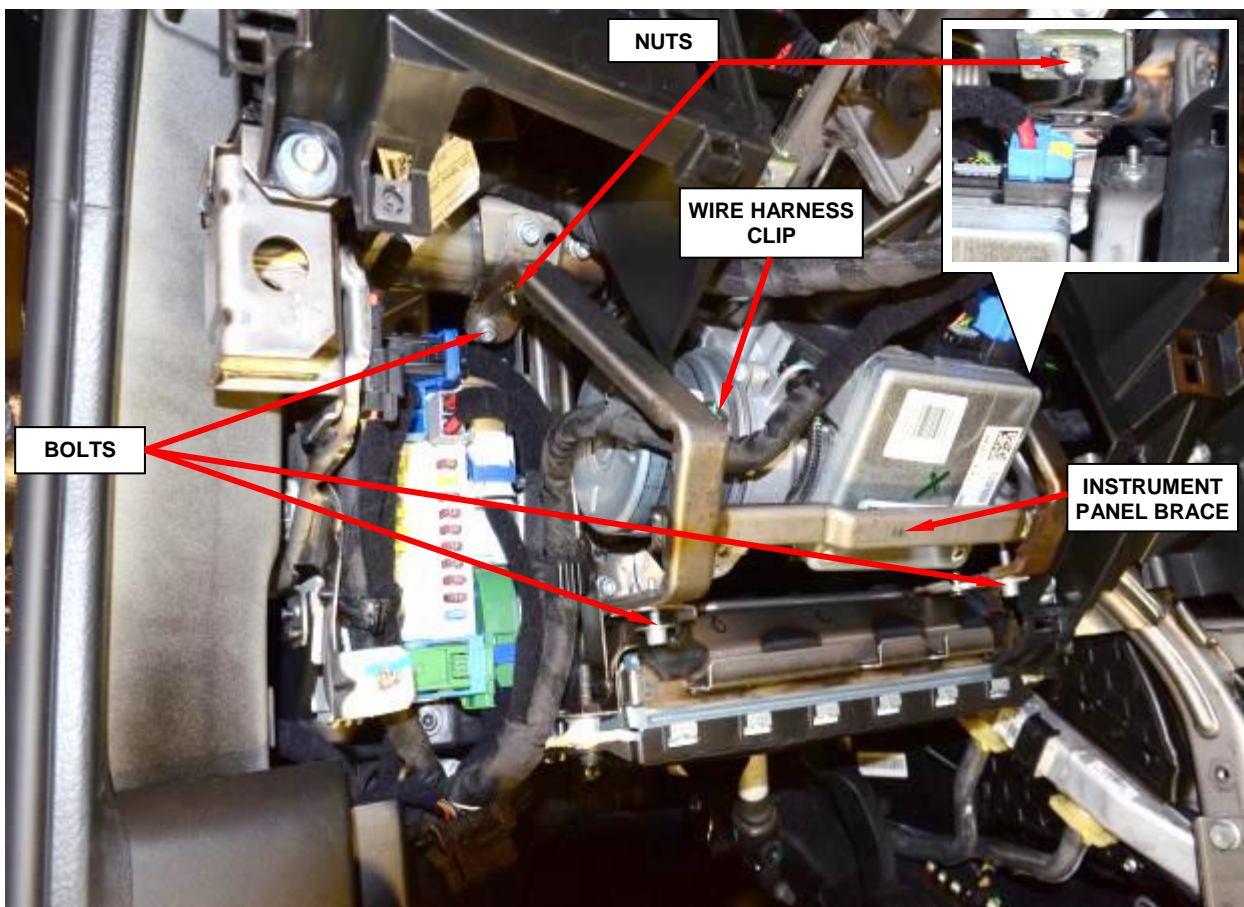

Figure 17 - Instrument Panel Brace
- b. Release the wire harness clip from the instrument panel brace (Figure 17).
- c. Remove and save the three bolts and two nuts securing the instrument panel brace and remove the brace (Figure 17).